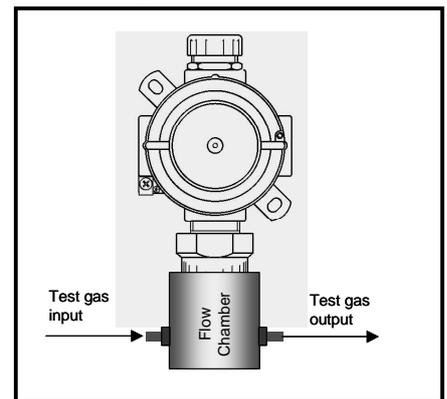

Fig. 6.40 – Flow chamber
3. the test gas flow must spread to the sensing element or reach it at a very low flow rate. For this purpose, use a specific flow measurement chamber that fits properly around the sensing element (Fig. 6.40), found in the kit. The gas must flow at a rate of about 0.5 liters/minute, and in any case no faster than 1 liters/minute